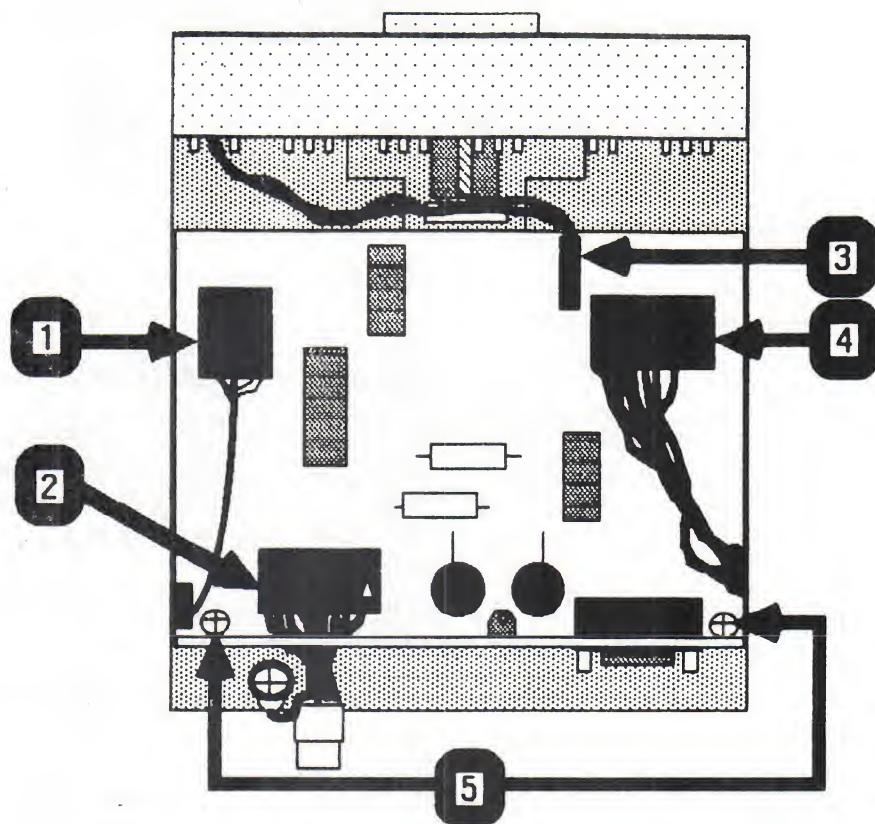

FIGURE 7
- a) head connector J4 (Figure 7, #1) - fits only one way
- b) bus connector J2 (Figure 7, #2) - white arrow on top
- c) LED connector J5 (Figure 7, #3)
- d) stepper motor connector J1 (Figure 7, #4) - note position of wires in Figure 7
3. Remove the two Phillips screws (Figure 7, #5) which secure the analog board to the chassis.
5. Replace the two Phillips screws (Figure 7, #5) to secure the analog board to the chassis.